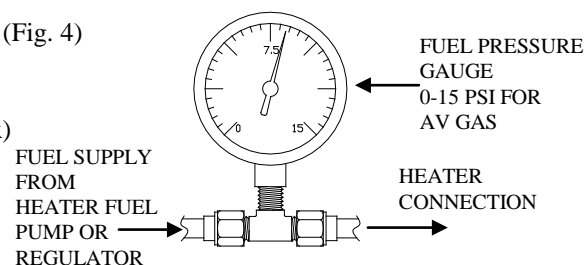

Figure 4
3.1.3 Install the fuel pressure gauge (0-15). Tee into as shown. (Fig. 4)